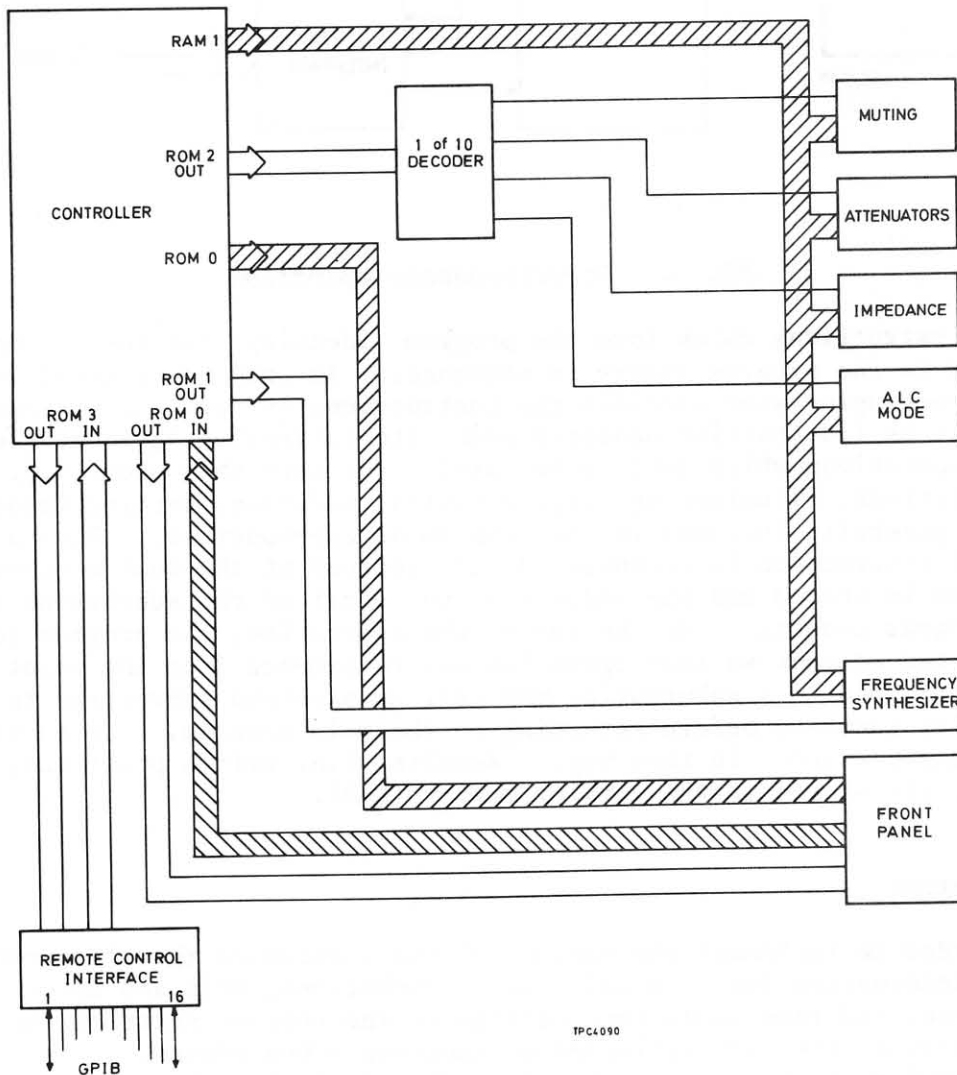

Fig. 3 Sender control system
7. The front panel controls are connected to the microprocessor using two output ports i.e. data (RAM 0) and address (ROM 0) and one input port (ROM 0) as shown by Fig. 3. In operation the data e.g. number, sign or decimal point, is set on the data bus and directed to the appropriate display module by the address which has been decoded from the hexadecimal information on the address bus. At the same time this decoded address activates one set of four controls so that their position can be sensed by the input port. By changing the address sequentially, each display character/set of four controls is accessed in turn. This scanning is carried out sufficiently fast to enable the front panel to appear to be operating continuously. The meter, however, is not scanned but driven conventionally.
Circuit diagram : Chap. 7, Fig. 3